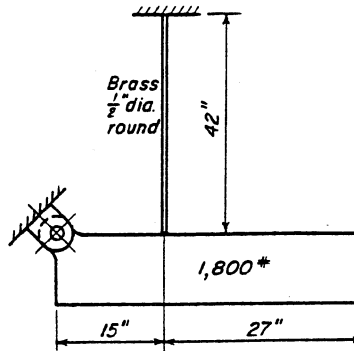

Figure 1-43 Problem 3.
3. The bottom member in Fig. 1-43 is of uniform cross section and can be assumed to be rigid. Its hinge is frictionless. Find the number of degrees of rotation of the lower member. *Ans.* $\phi = 0.137^\circ$.